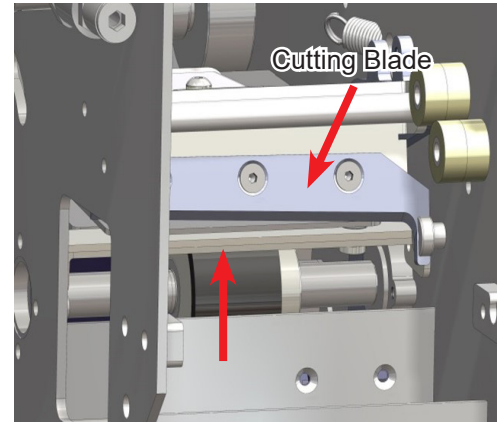

Figure 65: Clean Striker Plate
3. Clean the Striker Plate using damp cloth and a mild detergent (refer to Figure 65).